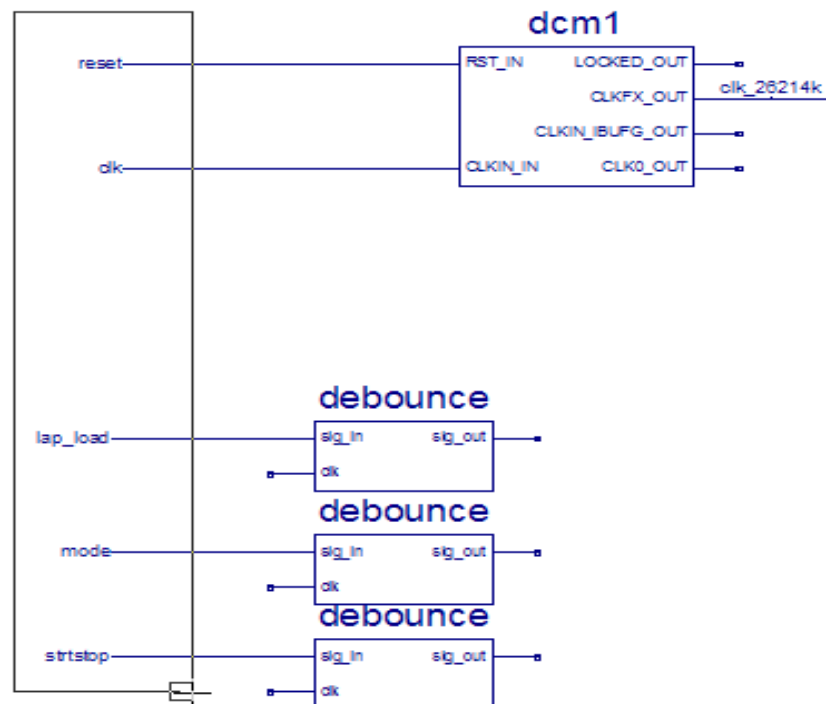

Figure 3-39: Adding I/O Markers to Labeled Nets
3. Place the name on the leftmost end of the net, as illustrated in Figure 3-39.
6. Click and drag a box around the name of the five labeled nets, as illustrated in Figure 3-39, to place an input port on each net.